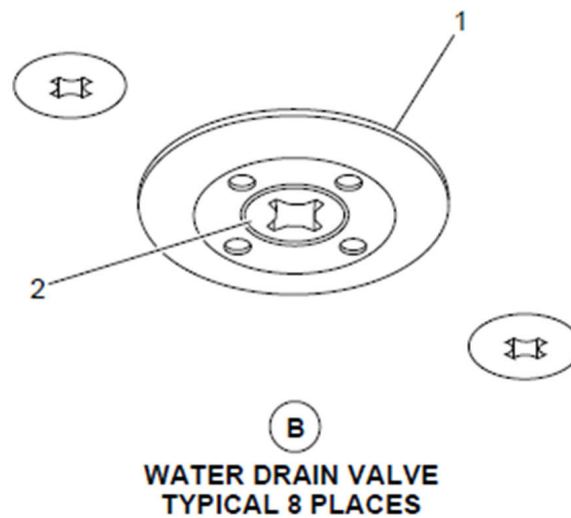

Figure 3-5: CRJ Water Drain Valve
- A. Ensure the aircraft is properly bonded. Refer to Figure 3-5: "CRJ Water Drain Valve" for the location of gravity defueling drain valves. Adhere to all defueling policies and safety guidelines listed within Chapter 2: "Safety and General Procedures".